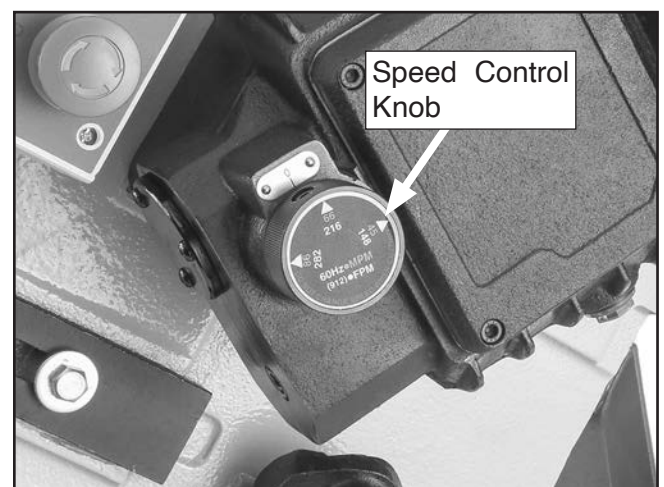

Figure 46. Location of speed control knob.
3. With machine turned **OFF**, rotate speed control knob to desired speed (see **Figure 46**).